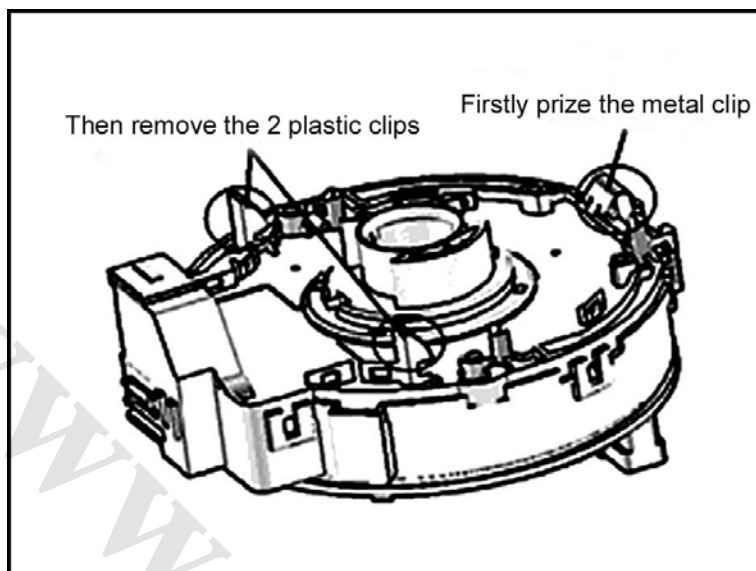

Fig2-30
10) Locate the ignition switch at position ACC, and dismantle the coil spring assembly. Note: The combination switch is connected to the installation plate by a metal clip and 2 plastic clips. Firstly prize the metal clip from the installation hole by a screwdriver and then remove the 2 plastic clips. See structure drawing in Fig. 2-30.